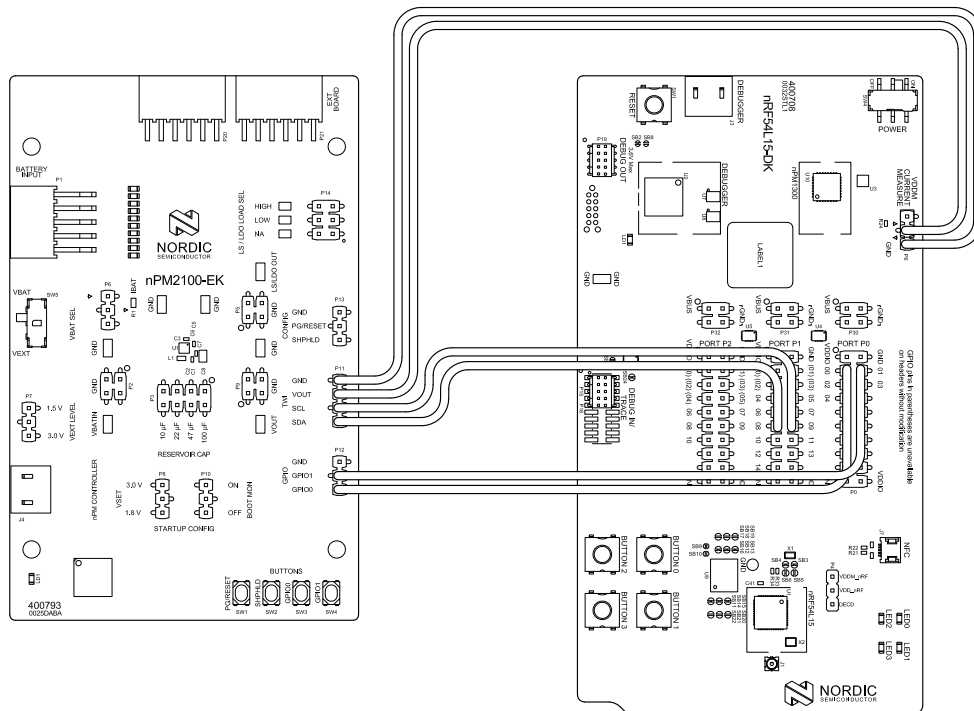

Figure 19: Connecting nPM2100 EK and nRF54L15 DK
1. Connect the nPM2100 EK to the nRF54L15 DK as shown in Figure 19: Connecting nPM2100 EK and nRF54L15 DK on page 24.